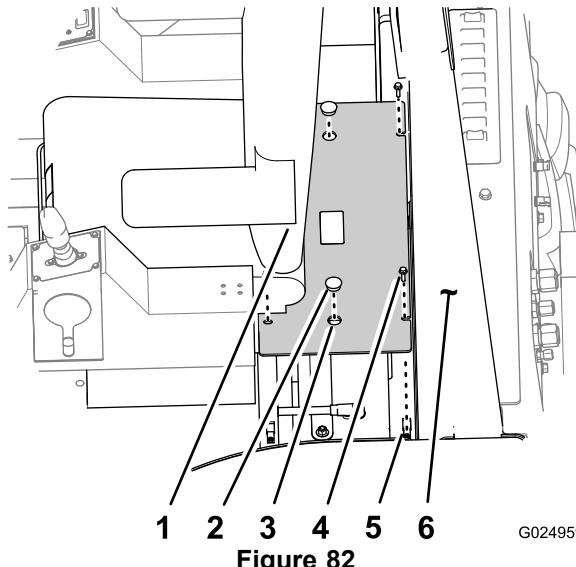

Figure 82
3. Remove the 4 bolts that secures the battery cover to the ROPS platform (Figure 82).
1. Align the holes in the mounting flanges for the battery cover with the plate nuts in the ROPS platform around the battery (Figure 82).
2. Secure the battery cover to the ROPS platform with the 4 bolts (Figure 82).